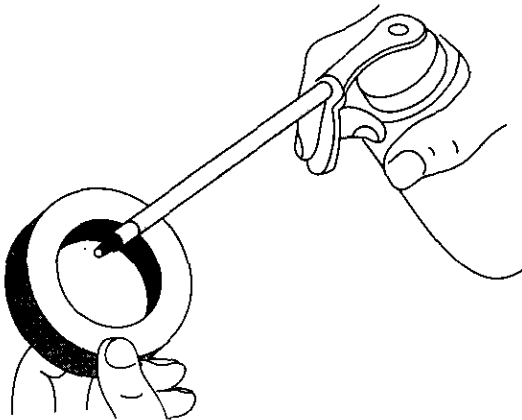

Fig. 20
5. Apply enough clean oil to saturate and squeeze out excess (Fig. 20).